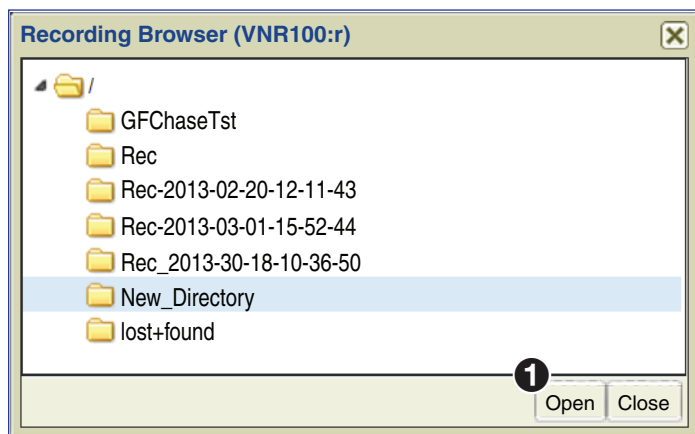

Figure 85. Recording Browser, Select and Open Directory
6. Select the new directory, and click **Open** to continue (see figure 85, ①).